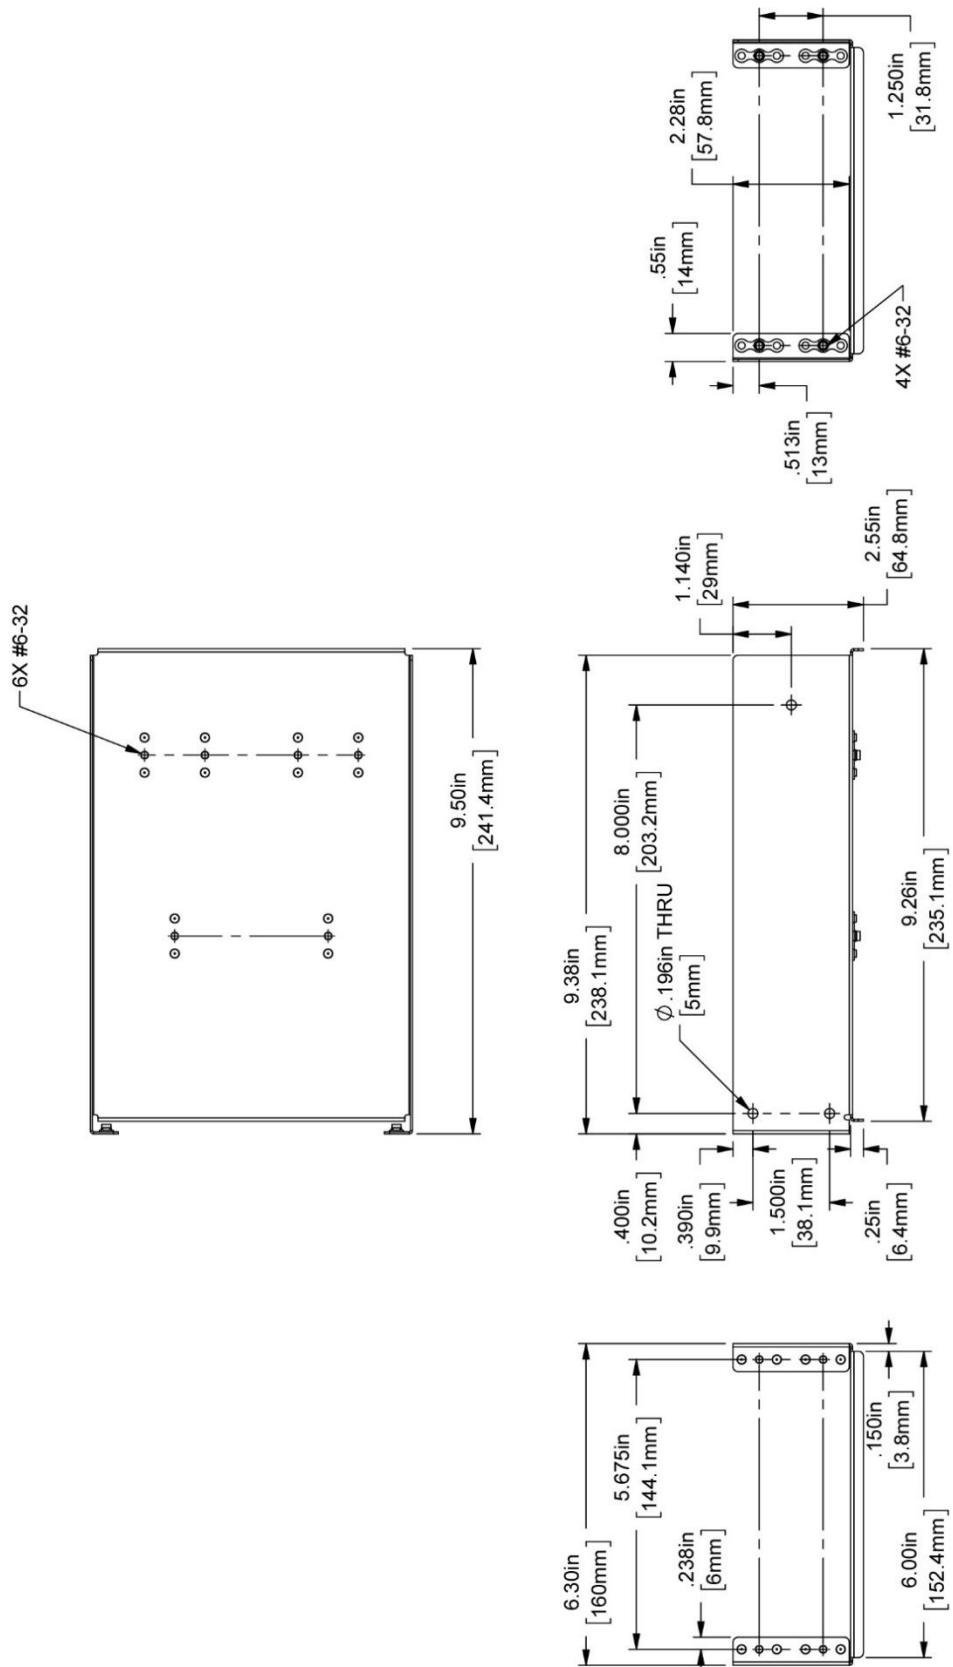

Figure 12: Physical Dimensions for COM/XPNDR Radio Stack Module Mounting Kit
1. If needed, cut an opening in instrument panel using Figure 12 as a guide.